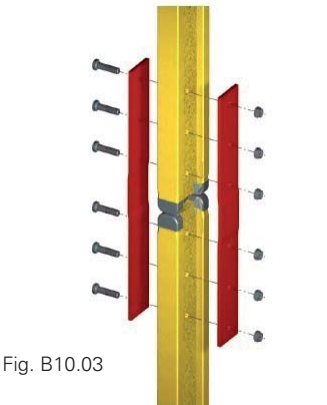

Fig. B10.03
3. Connect both parts of the splice and tighten with 6 Bolts M20x80 and 6 Nuts M20-8-VZ. (Fig. B10.03)